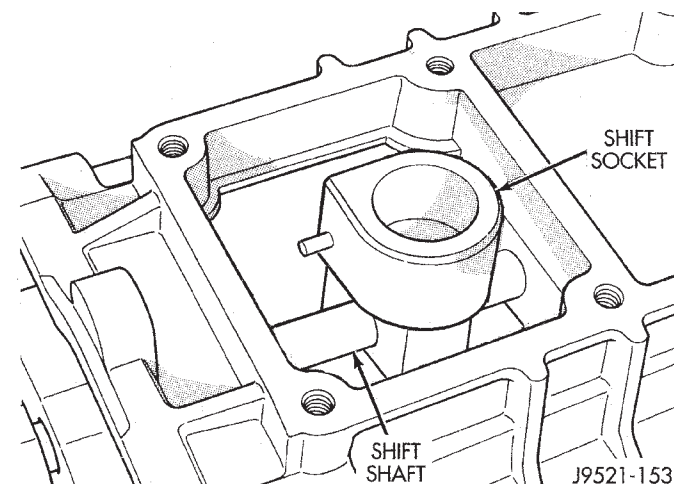

Fig. 108 Shift Socket Installation
(7) Align shift socket with shaft and slide shaft through socket and into shift shaft bearing in rear housing (Fig. 108).